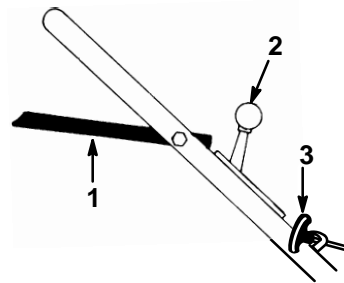

Figure 8
- Move throttle to  (Choke) (Fig. 8).
- Lift the blade control bail to the handle and hold. (Fig. 8).
- Pull the starter handle lightly until resistance is felt, then pull it sharply (Fig. 8). Allow the rope return to the handle slowly. When engine starts, regulate throttle as desired. Allow the engine to warm up. During warm up, the equipment can be operated.